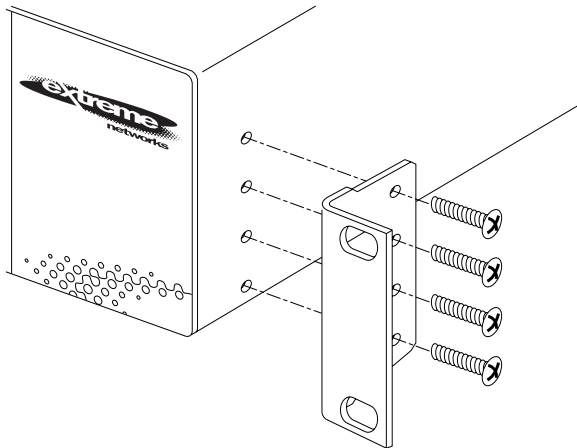

Figure 2-1: Fitting the mounting bracket
- 4 Insert the four screws and fully tighten with a suitable screwdriver, as shown in Figure 2-1.